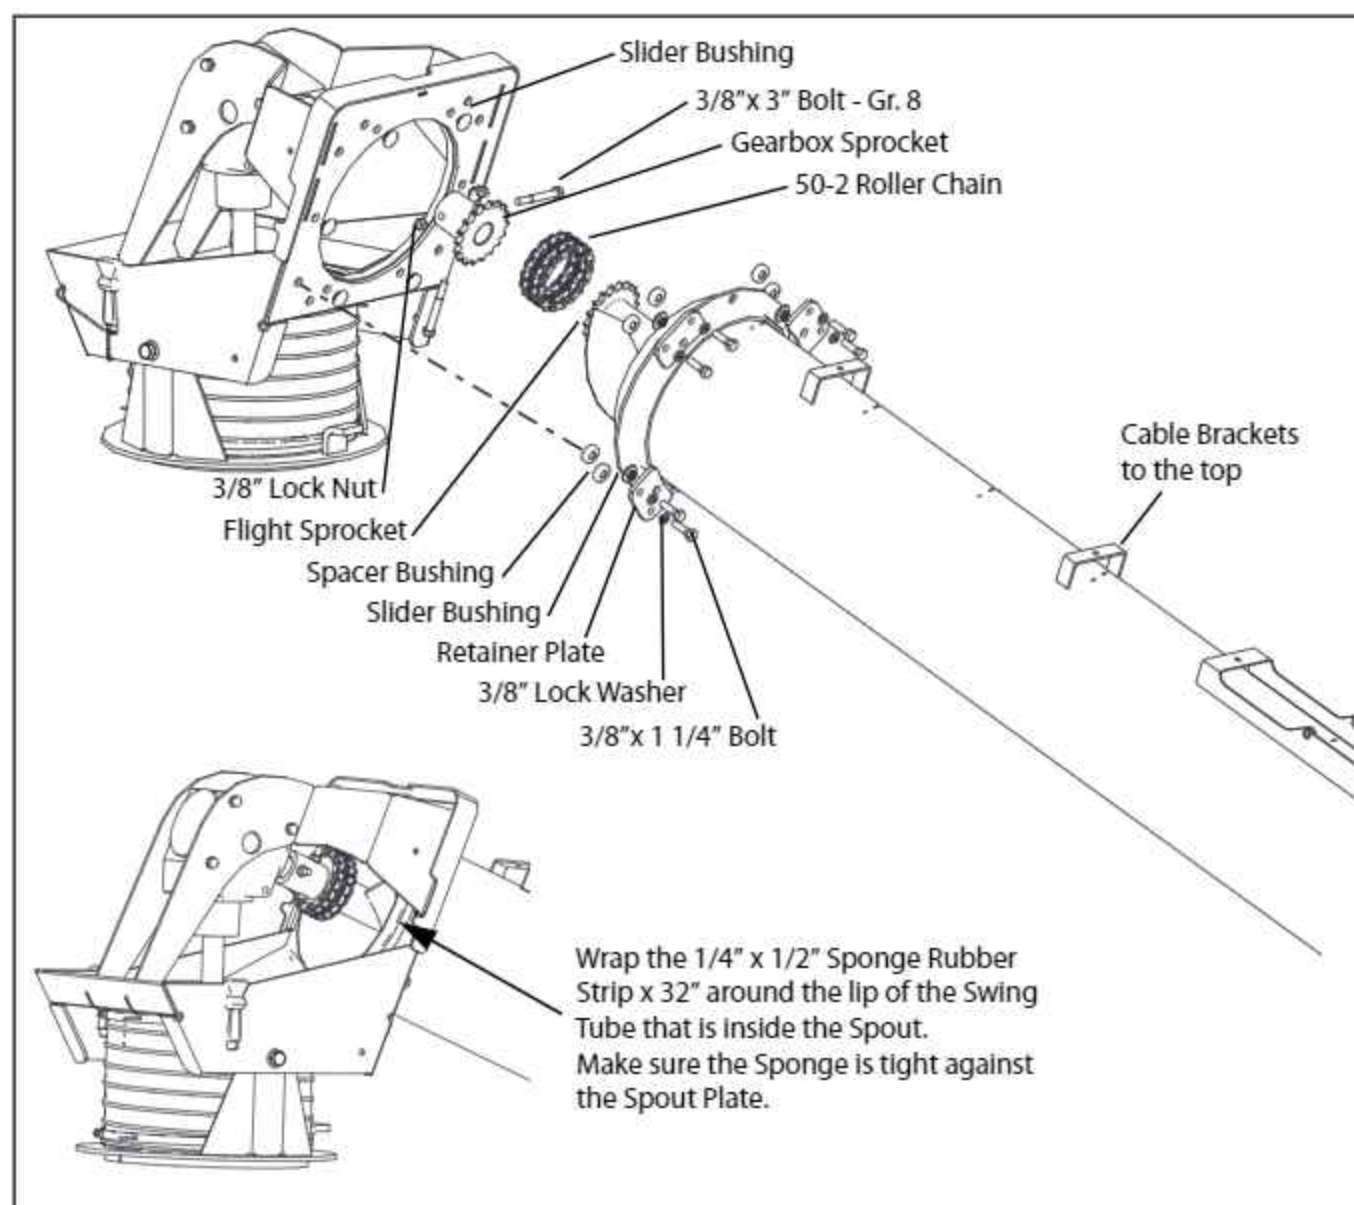

FIG. 3-33. Swing Tube / Spout Assembly
1. Suspend the upper end of the swing tube several feet off the ground with the front end loader or crane. Install six slider bushings into the six holes in the spout assembly and one into each Retainer Plate as shown in Fig. 3-33.
3. Slide the spout assembly onto the swing tube until it is against the angle flange. Fasten the spout to the tube using the four Retainer Plates. Each plate uses two 3/8"x 1 1/4" bolts, lock washers and plastic spacer bushings. Do not fully tighten these bolts. The spout must be able to rotate on the tube. See Fig. 3-33.
4. Install the 50-2 x 18 pitch roller chain around the coupler sprockets as shown in Fig. 3-33.
5. Remove the backing paper from the 32" foam strip and wrap it around the lip of the swing tube which is inside the Swing Tube Spout. Make sure the foam is tight against the inside of the spout plate. See Fig. 3-33.